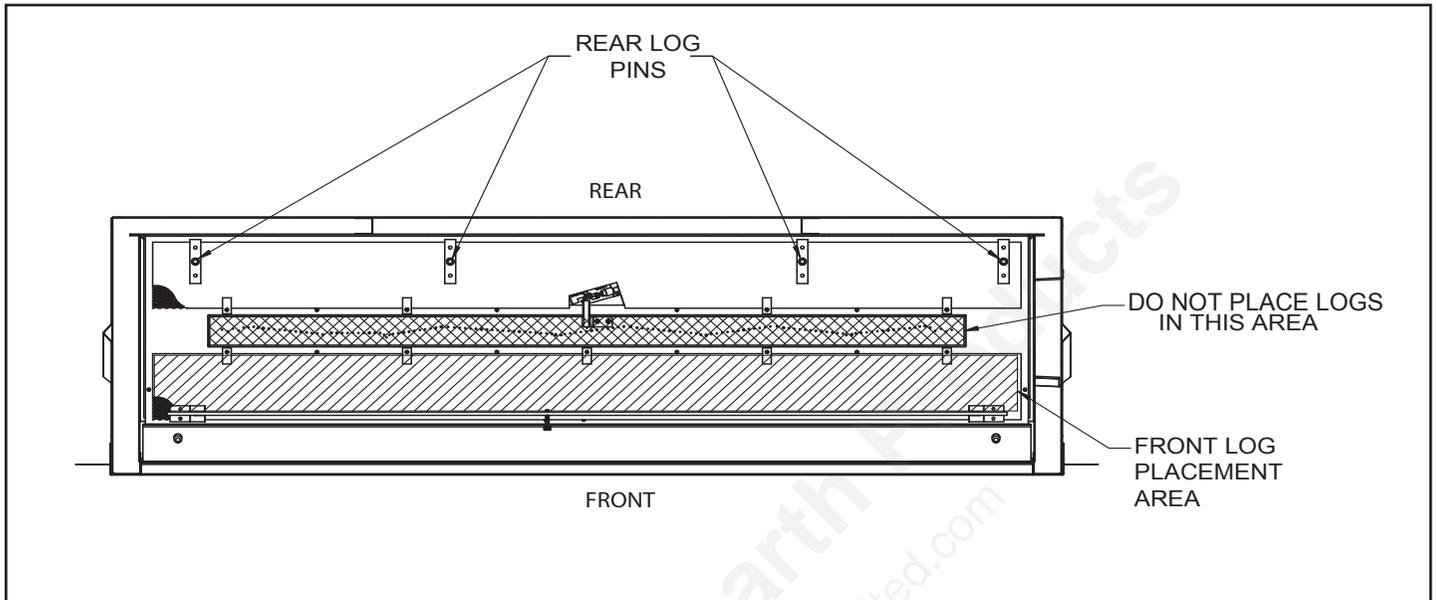

Figure 7.8— Log Placement
3. The front driftwood log does not utilize a pin bracket. This log can be placed behind the front deflection glass with the area marked on the figure below. THIS LOG CAN ONLY BE PLACED WITHIN THIS AREA. The log cannot be placed on the burner area. It can be adjusted left to right as desired. See Figure 7.8.